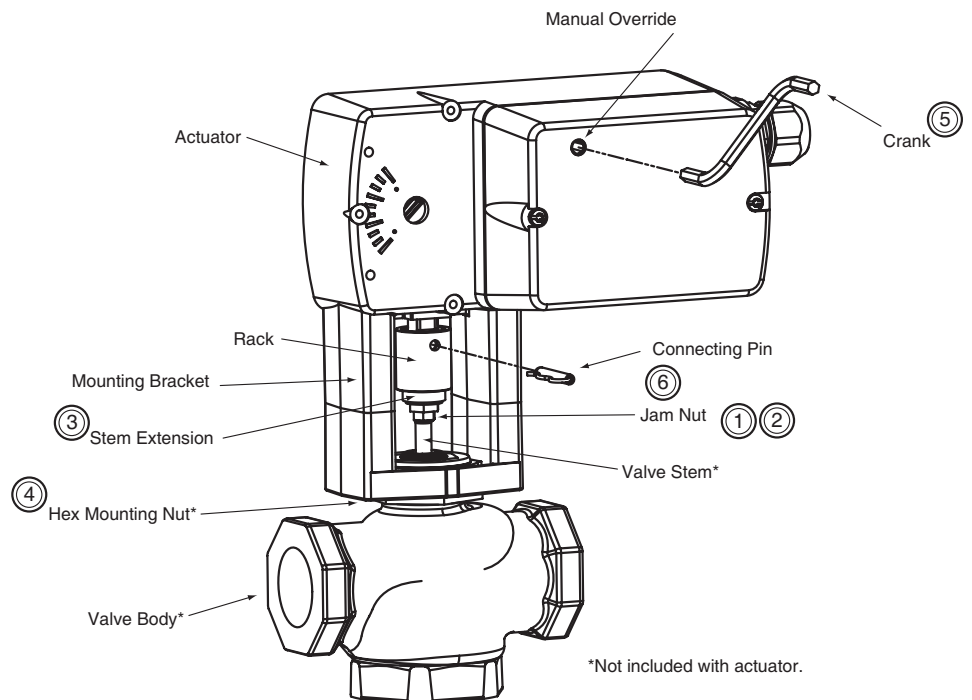
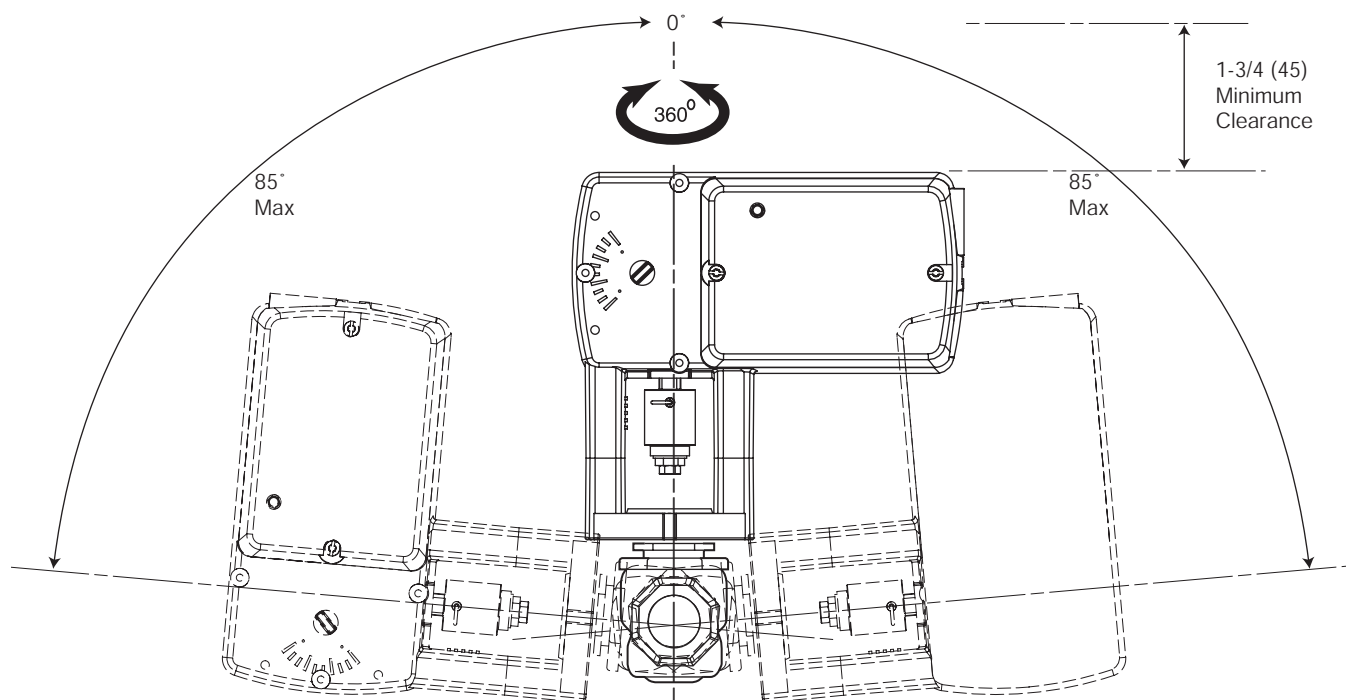

Figure-10 Mx51-710x Series Actuator Exploded View
Figure-11 Acceptable Mounting Orientations for Non-Steam Applications
- It is preferable that the actuator is mounted above the valve body. This will minimize the risk of damage to the actuator in the event of condensation or a valve leak. Refer to Figure-10.
- A. Preload the valve to insure proper close-off according to the numbered steps in Figure-10 and the text below. (Remove power before proceeding.)
The valve should be mounted in a weather-protected area, in a location that is within the ambient temperature limits of the actuator. The installation of the actuator assembly should provide clearance on all sides to allow for any maintenance that may be needed (see Figure-10 and Figure-11).
- For non-steam application the globe valve assembly must be mounted so that the actuator is at least 5° above the horizontal (Figure-11) to ensure that any condensate that forms will not travel into the mounting bracket or actuator.